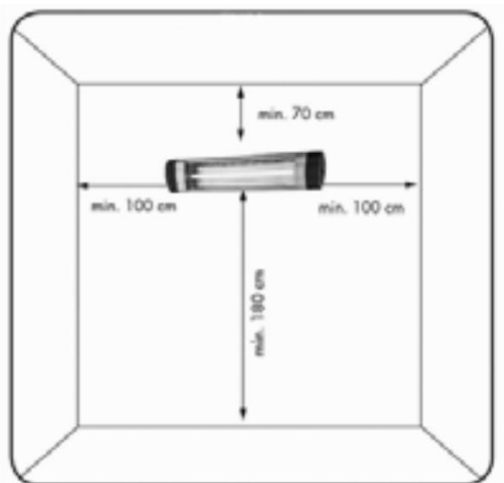

Fig. 2
4. Choose the location of installation according to fig. 2 and chapter 7.1. Drill 4 holes on the wall with diameter of 8 mm according to distance between 2 corner brackets on the back panel of the device. Put 4 dowels inside 4 holes on the wall, connect the brackets to the wall with 4 screws.